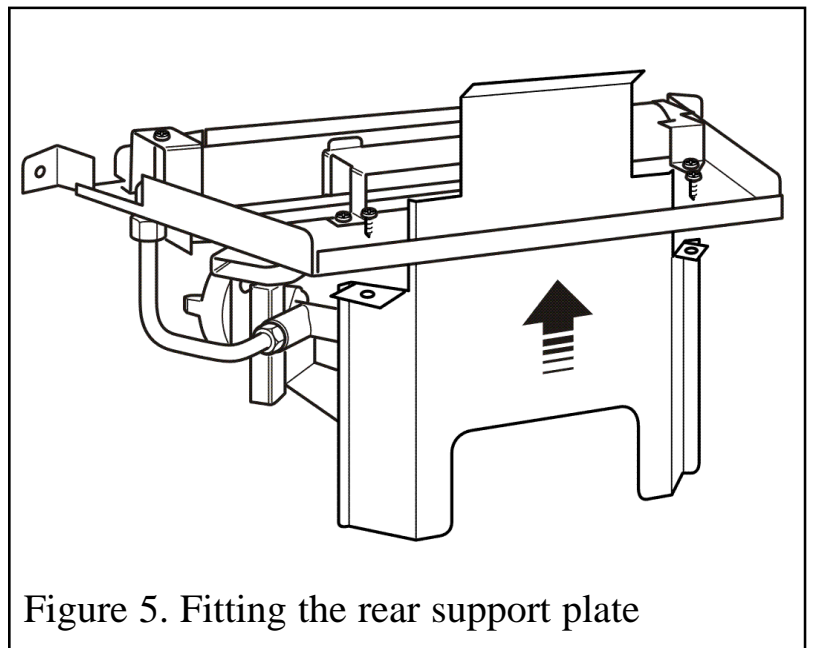

Figure 5. Fitting the rear support plate
**6.3.1** Prior to installation of the burner the rear support plate must be fitted (See figure 5). Two self-tapping screws retain the plate.